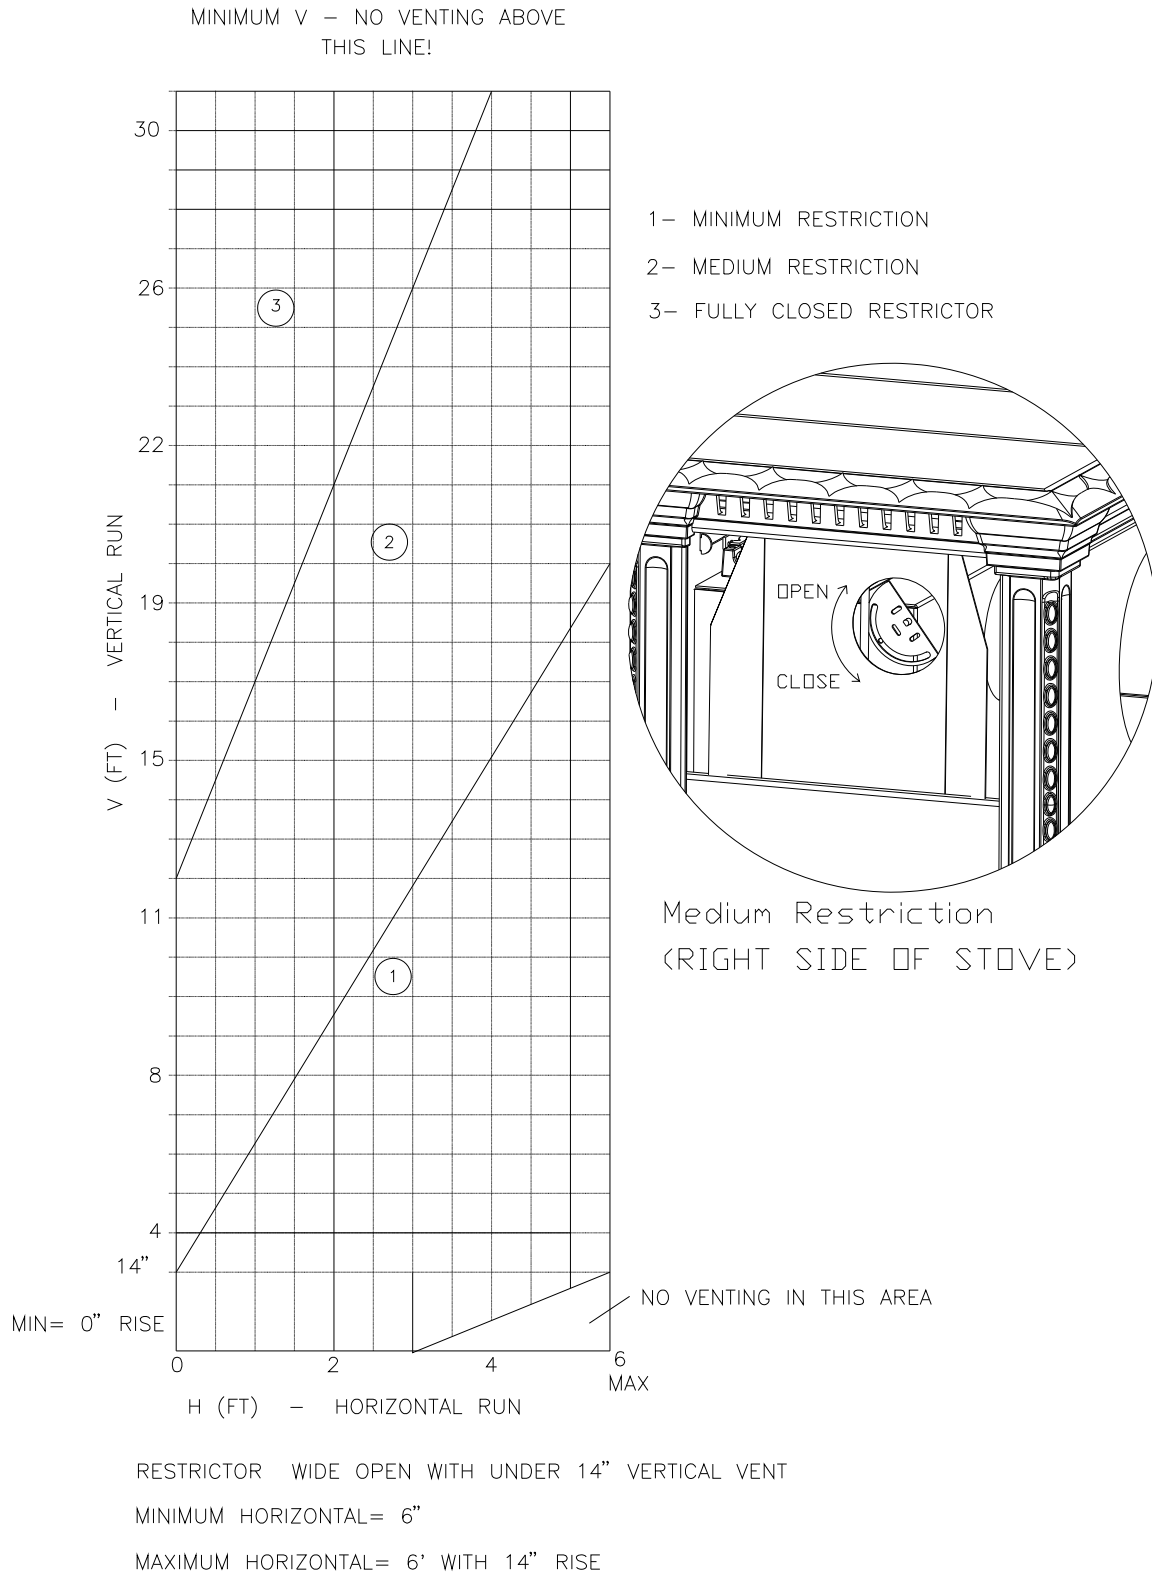

Figure 4: Venting Restrictor configurations
Make sure the unit is cool before touching any part of the firebox. To adjust your restrictor for maximum flame appearance, loosen the Phillips head screw, found on the upper rear right side of the stove. Spin the indicator tab into the desired position. Rotating counterclockwise closes the exhaust gasses, while rotating clockwise opens the exhaust gases. Once the desired restriction is reached, tighten the screw. There are unlimited positions for the restriction plate, one (1) being the lowest and three (3) being the highest. (Refer to Venting Configuration – *Figure 4* for recommended restriction plate positions)